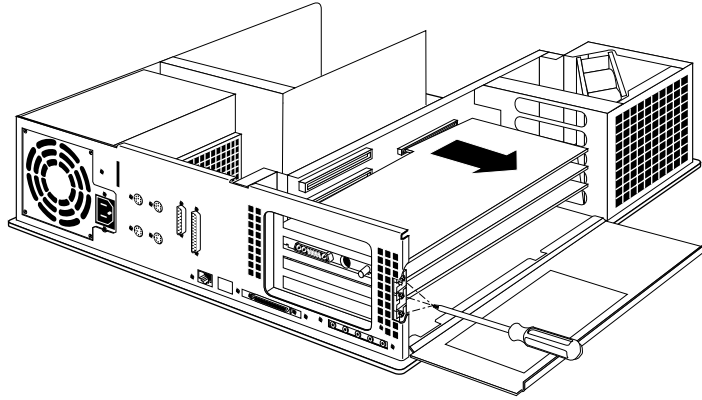

Figure 2-5 Removing Graphics and EISA Boards
8. Lower the metal door that covers the GIO and EISA expansion slots, then unfasten the screws that hold the graphics boards in place (for an Indigo²) and remove the boards. If there are any EISA boards installed, remove them also. Figure 2-5 shows how to remove the graphics boards; EISA boards are removed in a similar manner.